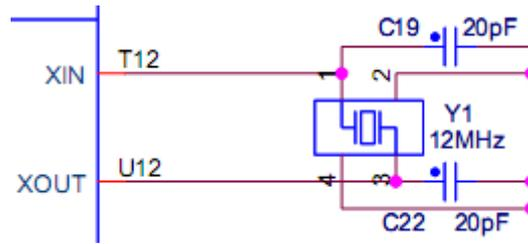

Figure 2-2
(1) Internal clock choose 12 MHz crystal. Clock Circuit is shown in figure 2-2: